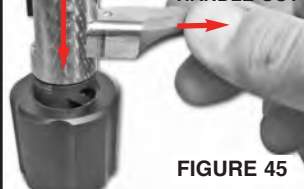

FIGURE 45
- After uncocking the firing pin/striker the user must use the takedown tool to hold the bolt against a flat surface and compress the firing pin spring with constant downward pressure. With your other hand pull the handle clear of the bolt body (FIGURE 45).